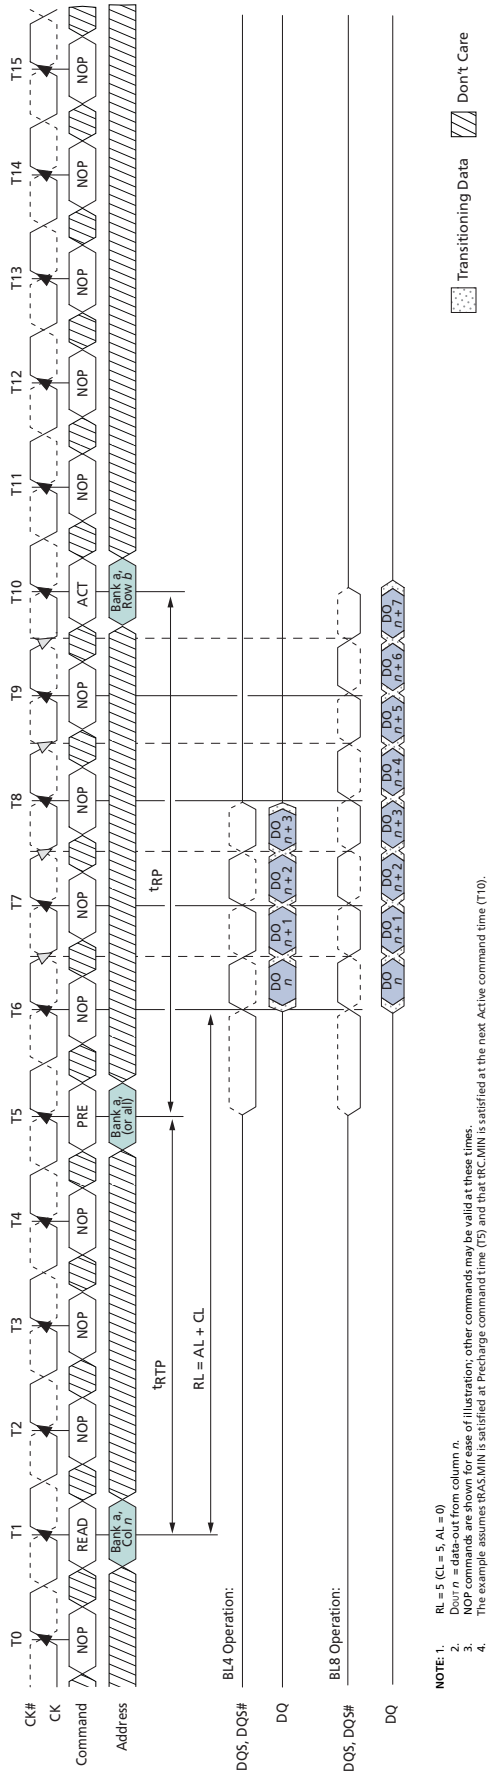
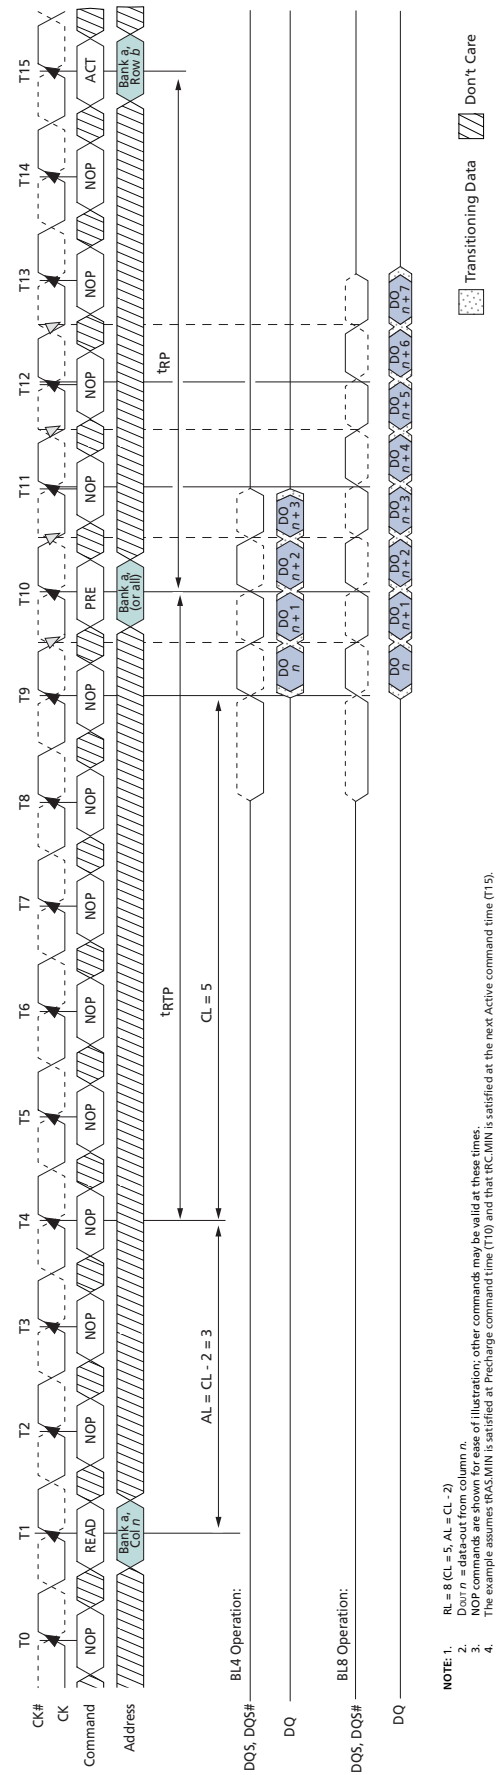

Figure 42 — READ to PRECHARGE, $RL = 5$, $AL = 0$, $CL = 5$, $tRTP = 4$, $tRP = 5$
Figure 43 — READ to PRECHARGE, $RL = 8$, $AL = CL - 2$, $CL = 5$, $tRTP = 6$, $tRP = 5$
- Examples of Read commands followed by Precharge are show in Figure 42 and Figure 43.